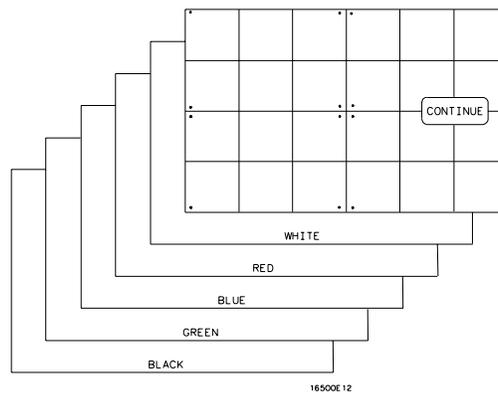

Figure 6-9. Selecting the Color Display Patterns
2. Touch the **Continue** field. The white raster pattern is displayed. With every touch of the Continue field, the next color test pattern is displayed. See figure 6-9.